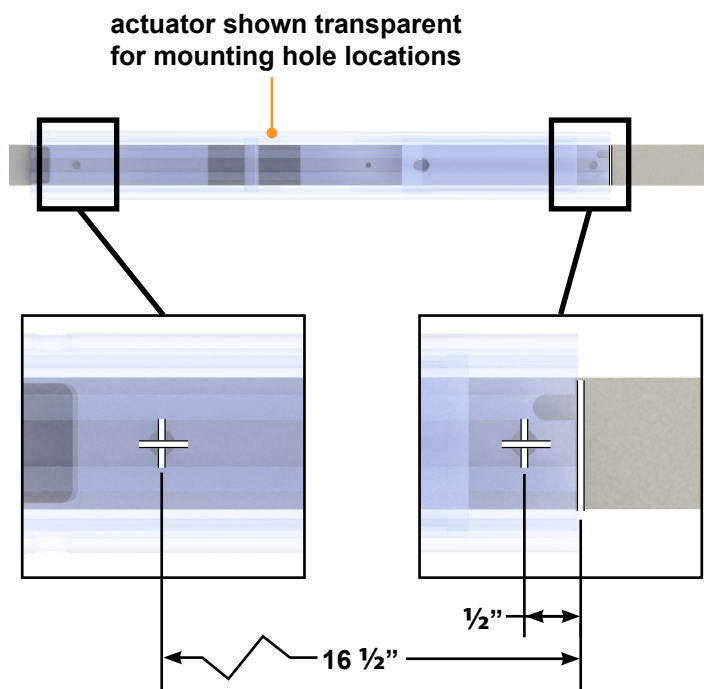

Fig.7
A. Measure back $\frac{1}{2}$ " and 16- $\frac{1}{2}$ " and mark (Fig7).
D. Use a drill with a $\frac{3}{8}$ " bit to drill both holes in the center of the frame at the previously marked (step A) locations (Fig.7).
6. Install the starboard actuator on top of the fence railing where the dry-fit markings were made (step 4) (Fig.7).